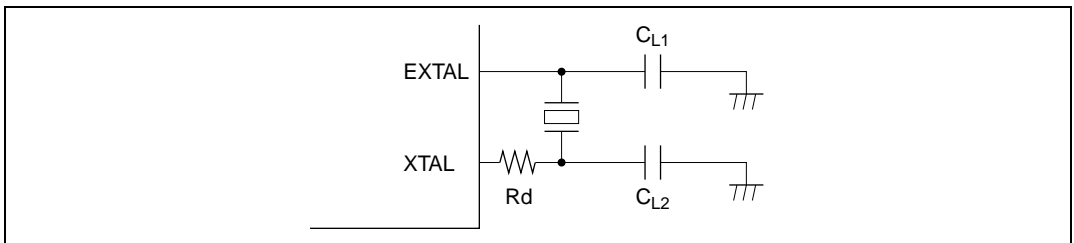

Figure 20.2 Connection of Crystal Resonator (Example)
Circuit Configuration: A crystal resonator can be connected as in the example in figure 20.2. Damping resistance R_d should be selected according to table 20.1 (1), and external capacitances C_{L1} and C_{L2} according to table 20.1 (2). An AT-cut parallel-resonance crystal should be used.